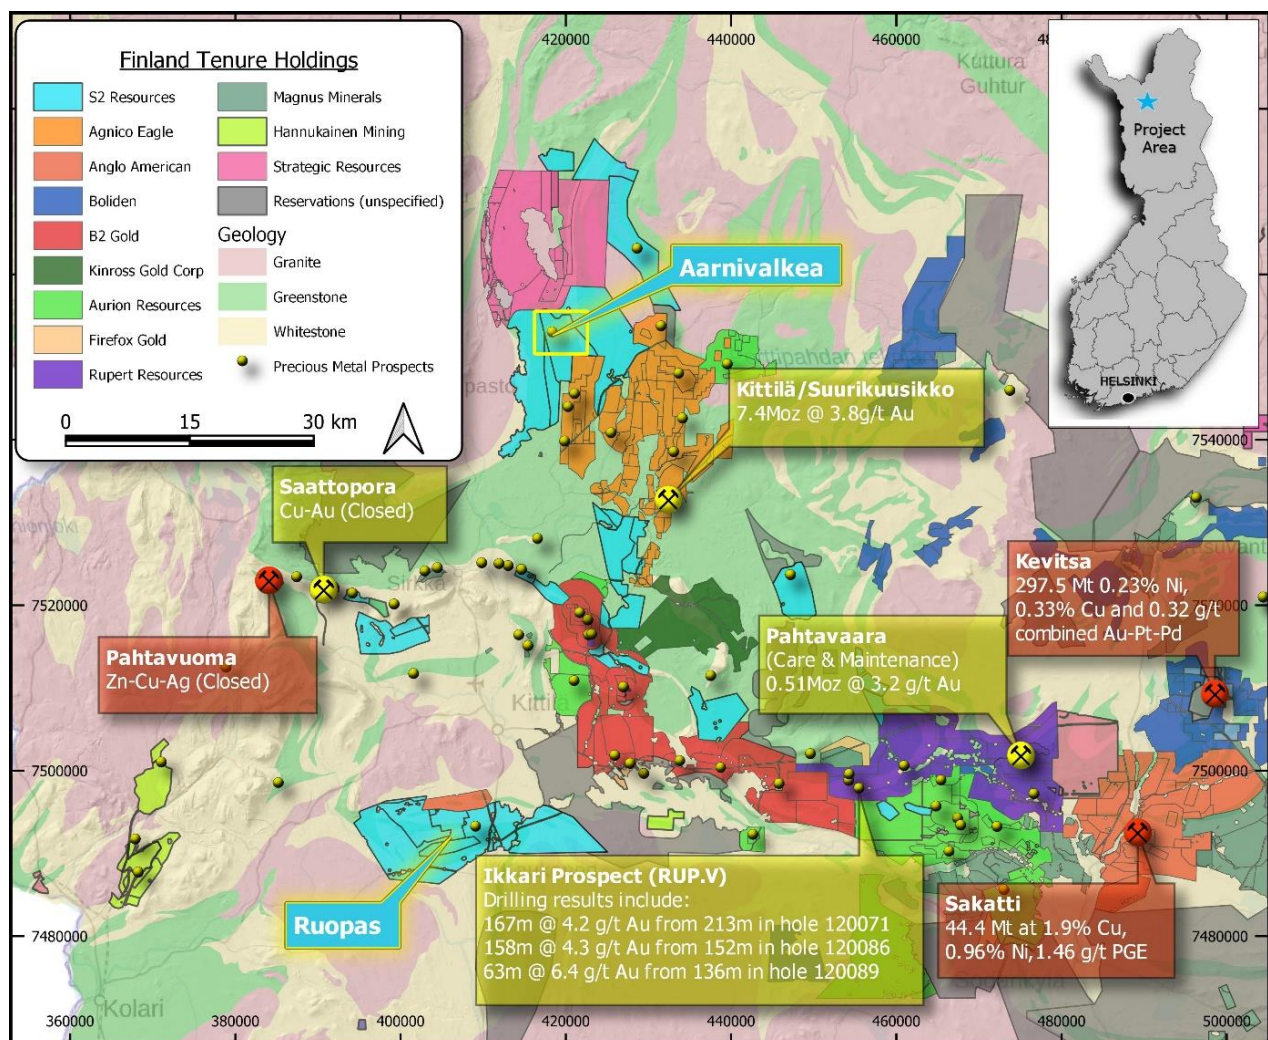

Figure 1. S2's landholding in the Central Lapland Greenstone Belt in Finland showing the Ruopas project and the Aarnivalkea gold prospect.
This area, previously referred to as Ruopas 1, will henceforth be named Ruopas Isovaara (“Isovaara”, see Figures 1 and 2). It is considered prospective for intrusive magmatic style nickel-copper-PGE mineralisation and contains a previously identified target comprising a well-defined electromagnetic (EM) conductor with coincident anomalous nickel and copper in base of till (BoT) drilling.